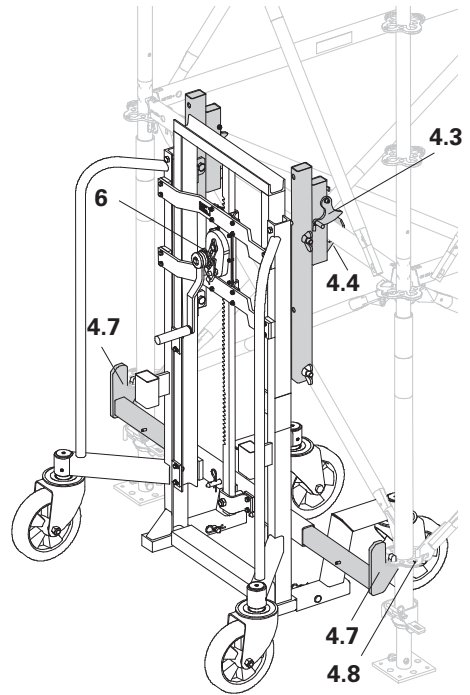

Fig. A3.03
2. Adjust the height by means of the winch (6) so that the rosetts are connected to the support hooks (3.7) and the ledger with the holding pockets (3.4). (Fig. A3.03)